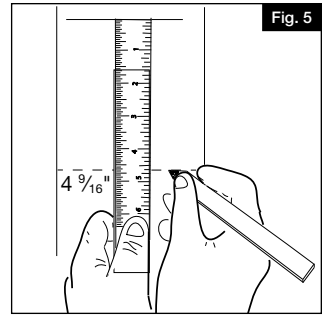

Fig. 5
- a. Place a mark $4\frac{9}{16}$ " below the Hand Rail layout line to establish placement of the Hand Rail bracket (Fig. 5). This mark denotes the bottom edge of the Hand Rail mounting bracket.